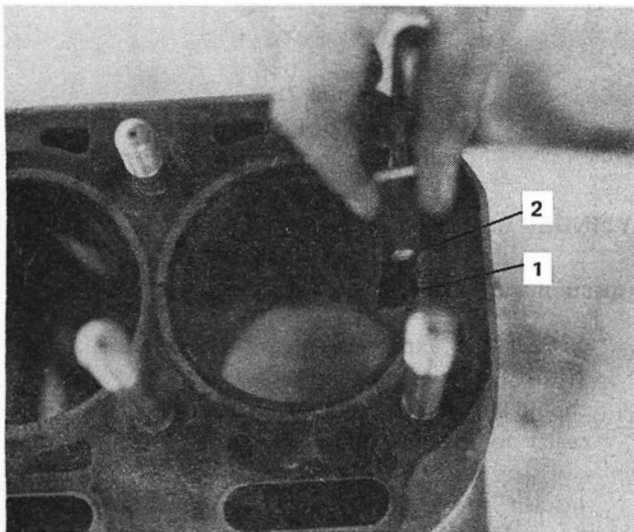

Figure 19
4. Place the ring at a right angle to the **cylinder** bore and measure the end gap with a thickness gauge, Figure 19. If the ring end gap exceeds the specified limit page 29, install new rings.